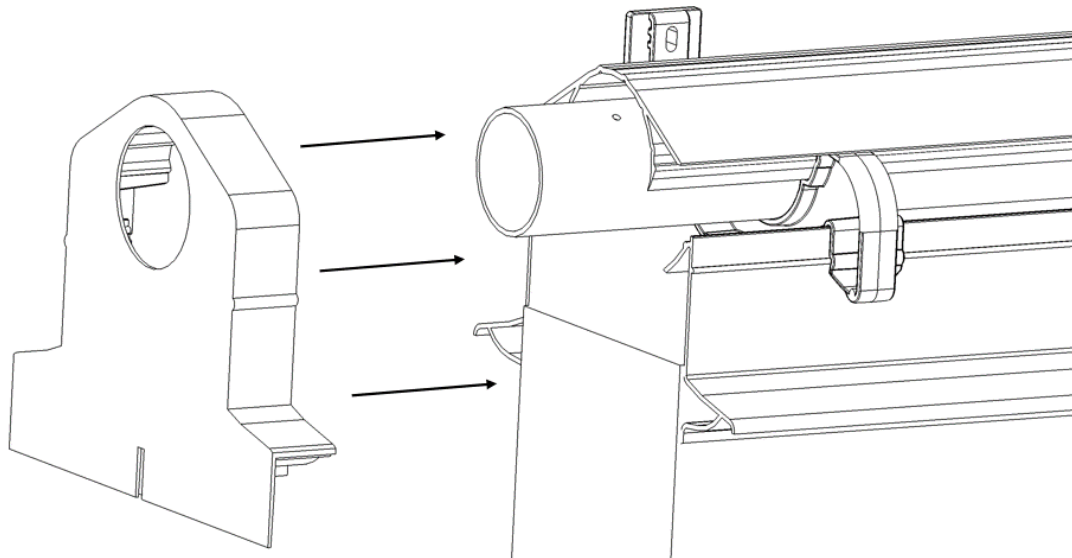

Figure 33
Insert the End Cover for Deflector [*ref. 20*] on both sides of the installation. See Figure 33.